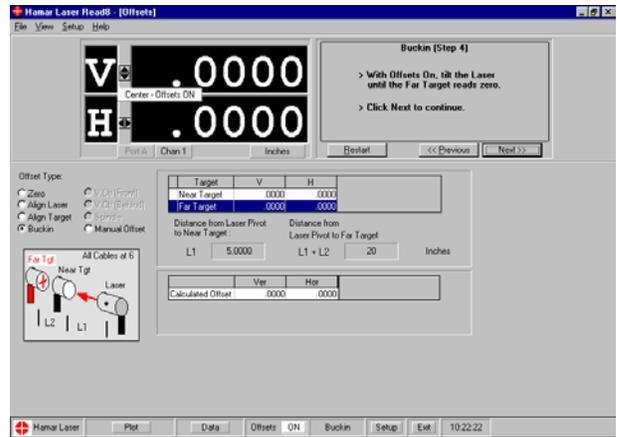

Figure 59 - Buckin Offset Screen – Zero and Remove Offsets (Step 4)
13. Click Next to record data from the far target and proceed to Step 4 (see Figure 59).
Tilt the entire laser unit with the adjusting screws and micrometers until the target is zeroed (see Figure 59) At this point, the beam is parallel to the surface, but the target may not be centered on the laser beam. See Item 16 on Page 46.